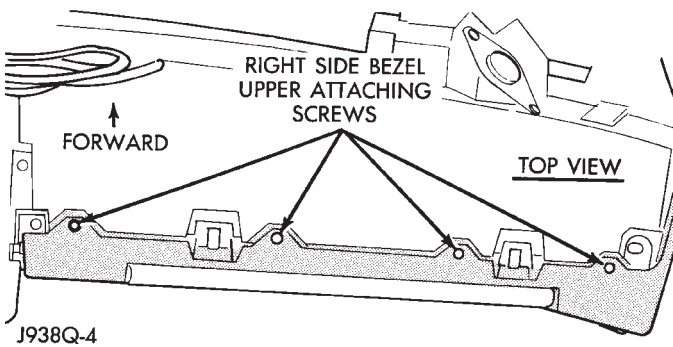

Fig. 6 Right Side Bezel Upper Screws
(13) Remove 4 screws from top of glove box bezel (Fig. 6).